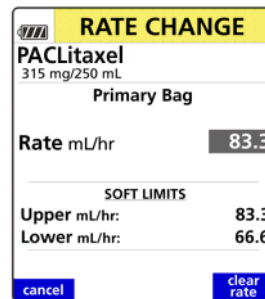

Figure 115. Rate Change Screen. See important note on page 94.
2. Observe the displayed mL/hr soft limits. See Figure 115.